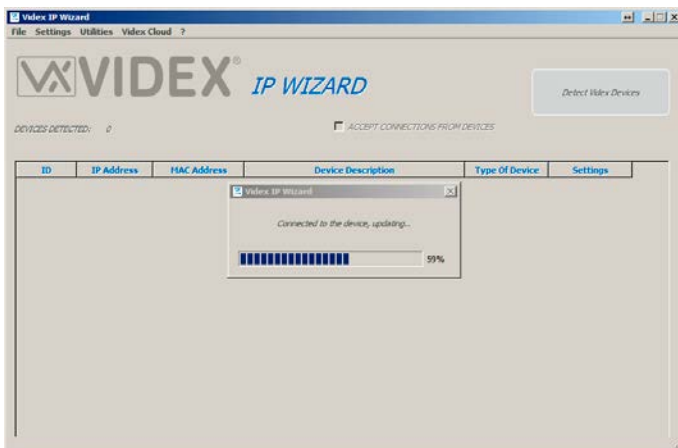
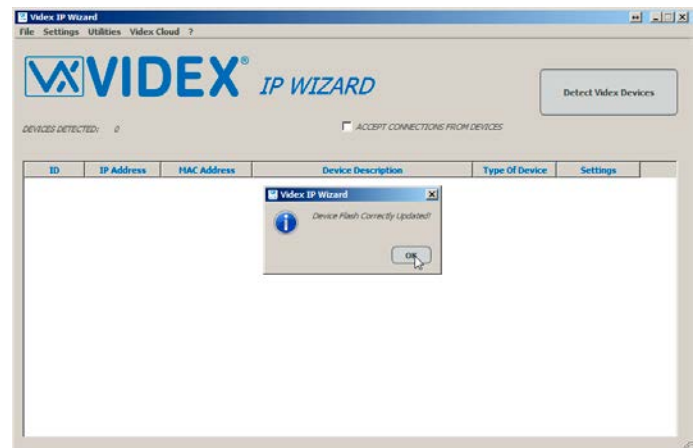

Fig. 30 Firmware update in progress
Fig. 31 Firmware update confirmation
- Wait until the firmware update (Fig. 30) terminates with the confirmation (Fig. 31)